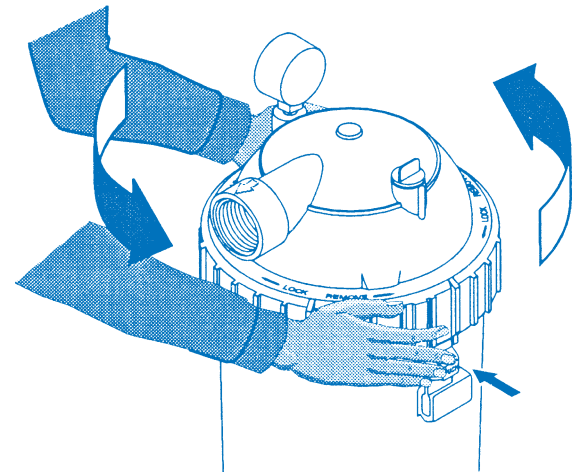

Figure 3
- a.** Press the safety latch (below the ring) toward the tank to release it (see Figure 3).